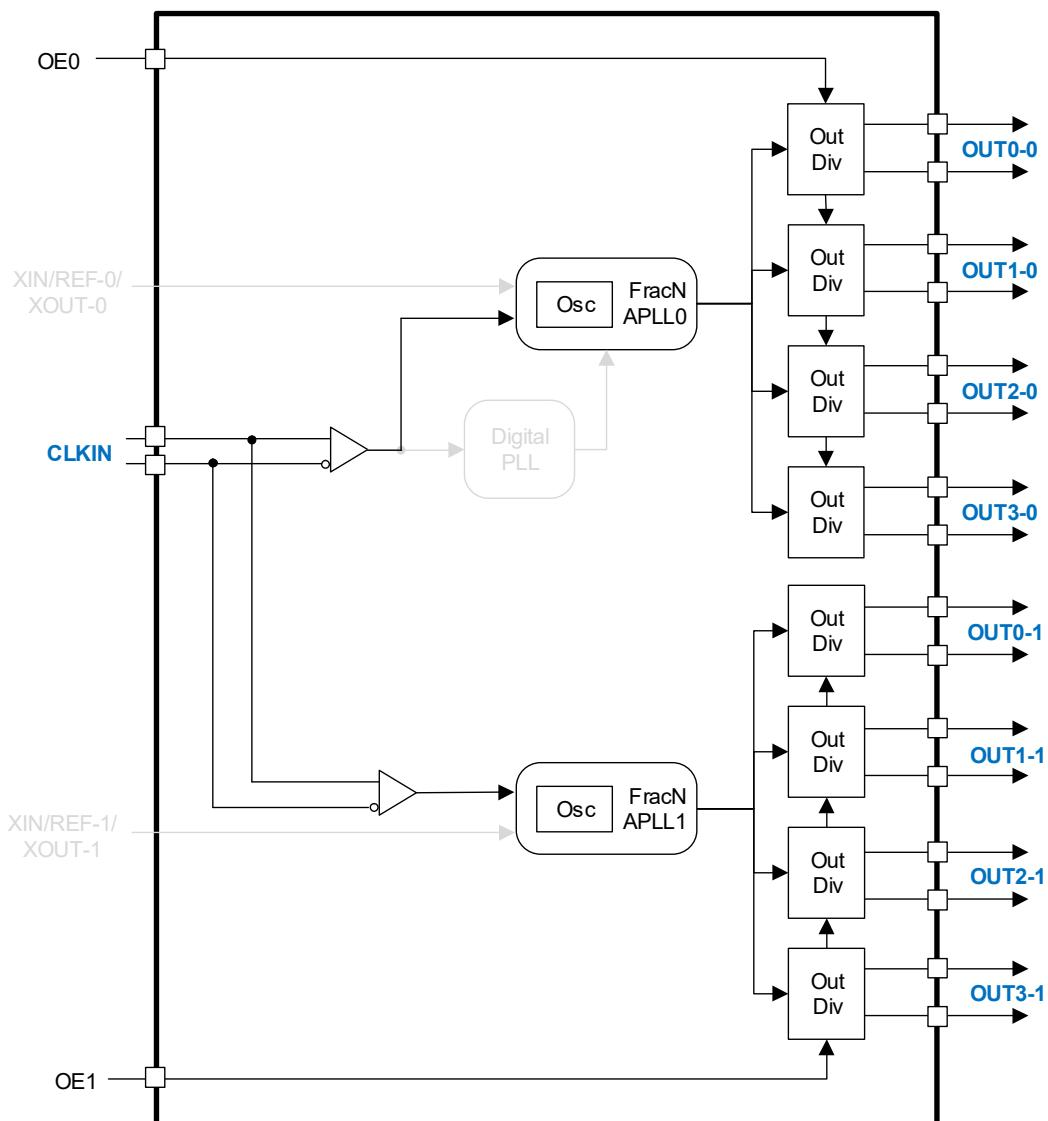

Figure 4. Clock Generator Mode with RC32508A when External Reference is Fed into CLKIN
- As shown in Figure 4, up to two frequency domains can be obtained in this configuration and up to eight differential or 16 LVC MOS outputs can be obtained.